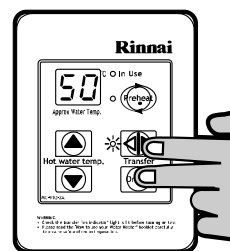

Fig. 7
STEP 1: For the controller in the KITCHEN ONLY, press and hold the 'Transfer' and 'On/Off' buttons simultaneously (Fig. 7) until a 'beep' is heard (approximately 5 seconds).